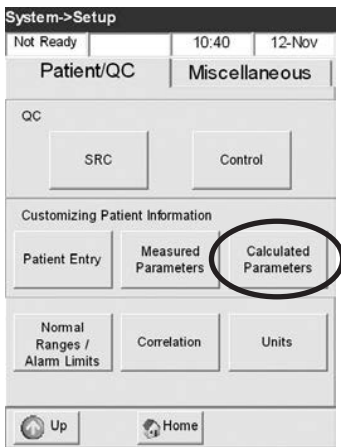

Fig. 3-19 Select Calculated Parameters
2. In the **<System Setup>** menu, press **<Calculated Parameters>** (Fig. 3-19).